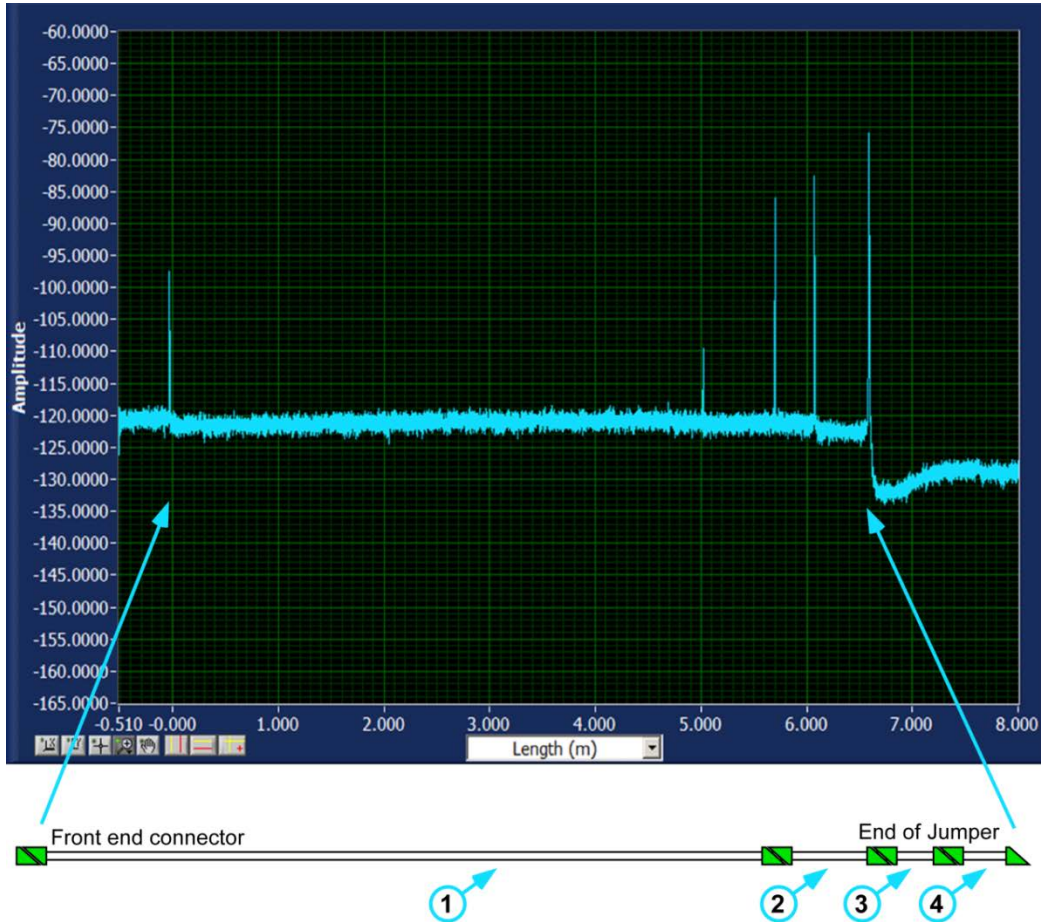

Figure 2. The backscatter as a function of length of multiple fiber jumpers
Figure 2 is an illustration of the length determination of four (4) jumpers connected in series via FC/APC bulkhead connectors.